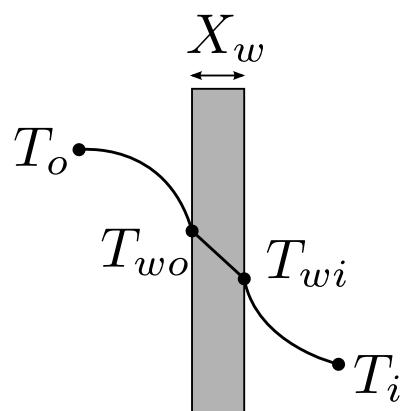

Figure 21: The temperature profile through the pipe wall.
- a) Chilled water flowing through brass tubes of  $0.0126 \text{ m}$  inside diameter and  $0.0018 \text{ m}$  thickness cools a stream of air flowing outside of the tube. The film coefficients for the air and water flows are  $176 \text{ W m}^{-2} \text{ K}^{-1}$  and  $5660 \text{ W m}^{-2} \text{ K}^{-1}$  respectively and thermal conductivity of the brass is  $102 \text{ W m}^{-1} \text{ K}^{-1}$  (see Fig. 21).